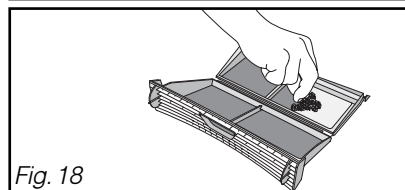

Fig. 18
- Clean it by removing the thin coating of lint covering it (Fig. 18).